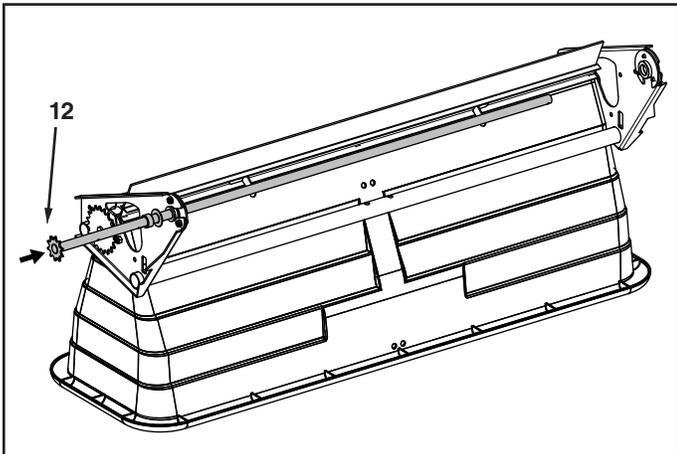

FIGURE 5
- Assemble the axle (12) through the end of the spreader frame that contains a pre-assembled sprocket. See figure 5.